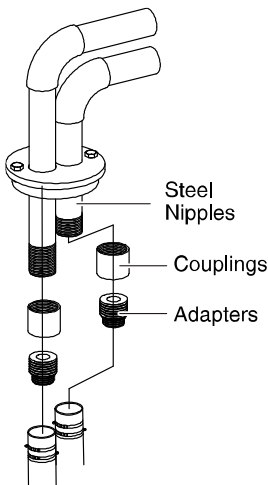

Figure 9
4. Use pipe couplings and adapters to connect the nipples to the plastic pipe in the well (See Figure 9). Teflon tape all threaded joints to prevent leaks.